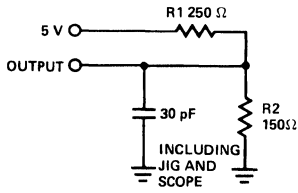

Figure 1a
- t_{AA}, t_{ACS} and t_{AWE} are tested with C_L = 30 pF as in Figure 1a. Timing is referenced to 1.5V on the inputs and outputs.